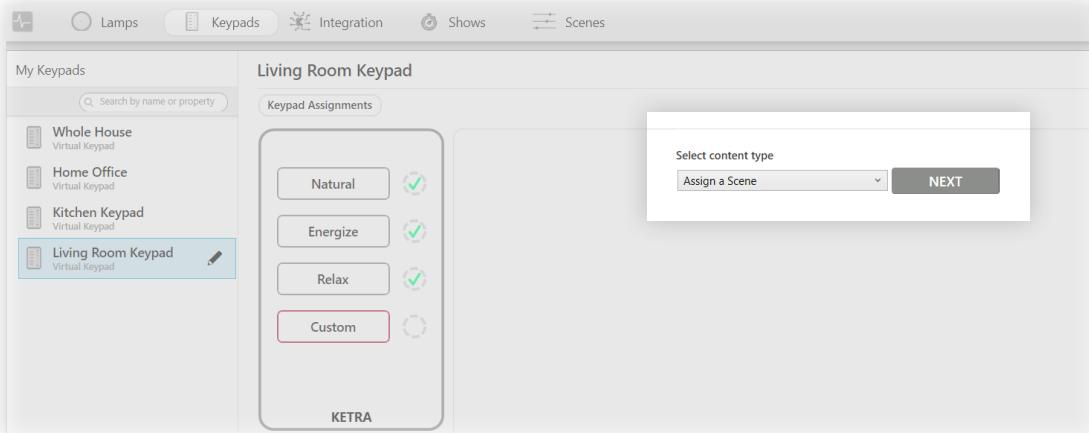

fig. 48
- 2 Select "Assign a Scene" in the content type dropdown, then click NEXT. See fig. 48.